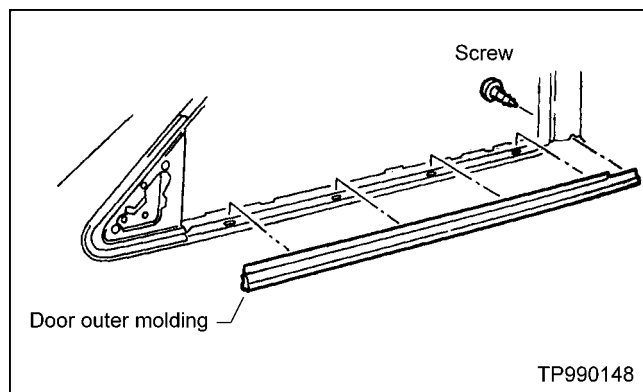

Figure 9. Door Outer Molding Removal
- 2. Remove door outer molding (see Figure 9).